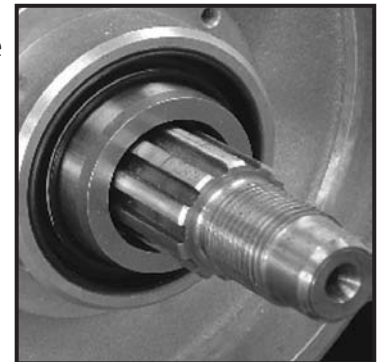

Fig.15- Install spacer
- Slide sprocket shaft spacer onto sprocket shaft, (see illustration) until it is seated on the sprocket shaft bearing. **See Fig.15.** If you purchased a complete engine assy, go to page 11 step 11 of the Box 3 Instructions #1208-1353.